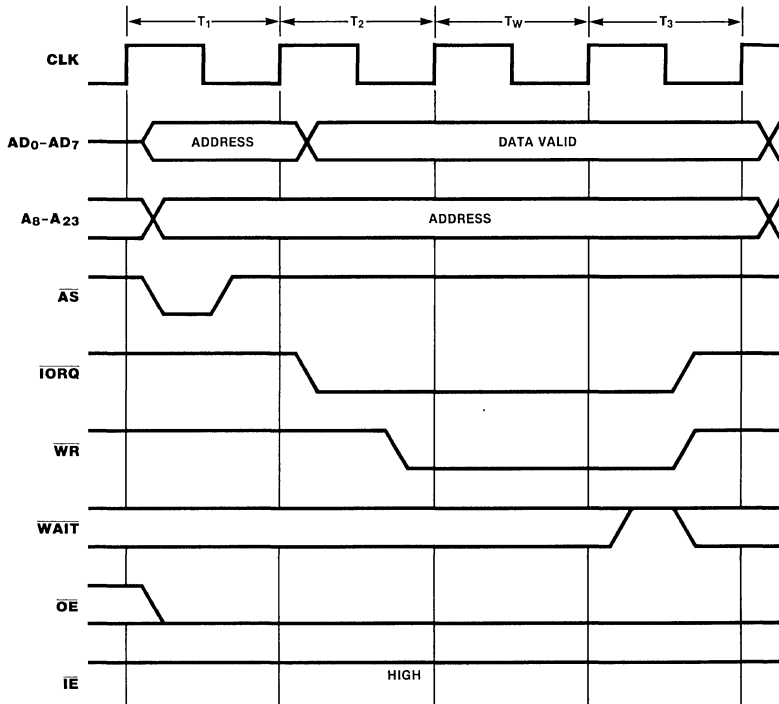
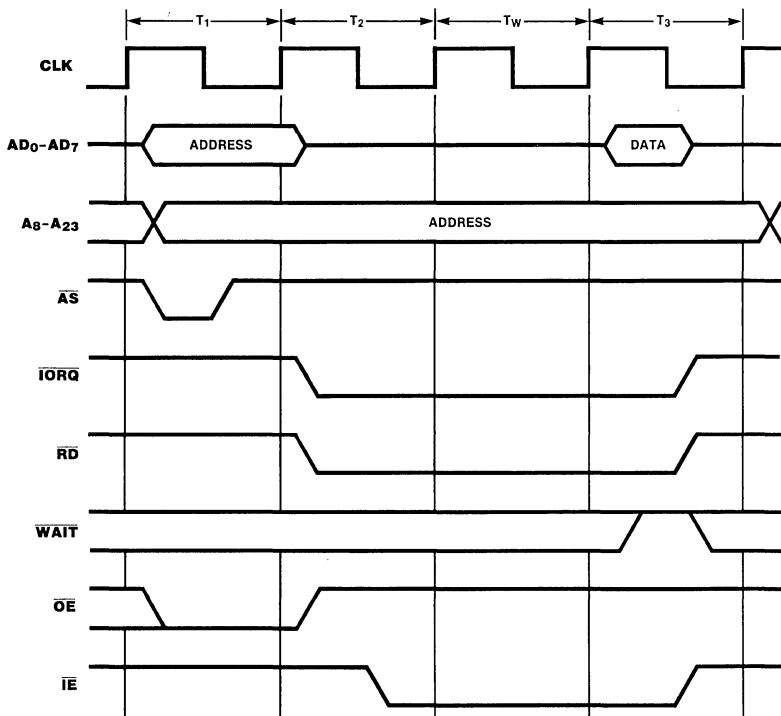

Figure 42. I/O Write Timing
Figure 43. I/O Read Timing
**I/O Transactions.** I/O transactions move data to (Figure 42) or from (Figure 43) peripherals and are generated during the execution of I/O instructions.